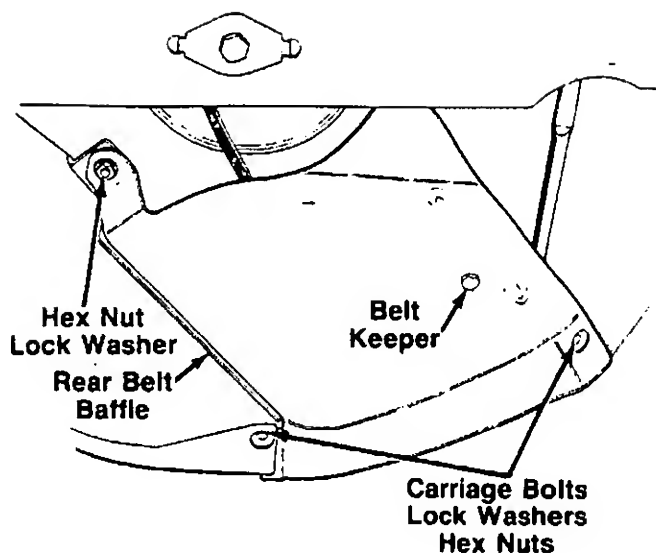

FIGURE 27.
4. Remove the rear belt baffle by removing three hex nuts and lock washers, and two carriage bolts. See figure 27.
When reassembling the rear belt baffle, make certain the belt keeper is outside of the belt, and the edge of the rear belt baffle is between the rear chute baffle and the rear panel as shown in figure 27. Make certain to tighten all nuts and bolts securely. If plastic was placed under the gas cap, be certain to remove it.